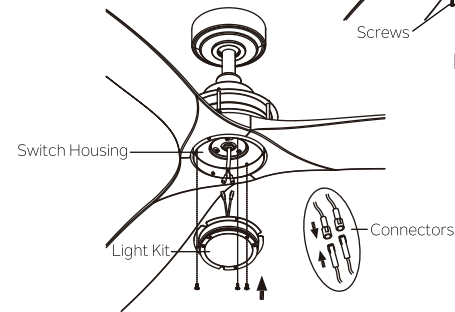

Fig. 26
**Step 6.** Hold the light kit close to the switch housing and connect the WHITE wires from the light kit and fan by pushing the connectors together. Follow the same procedure with the BLACK wires. (Fig. 26)
**Step 7.** Tuck the connections neatly into the light kit. Align three round holes on the light kit and switch housing. Securely tighten with 3 screws removed on step 5.(Fig.26)